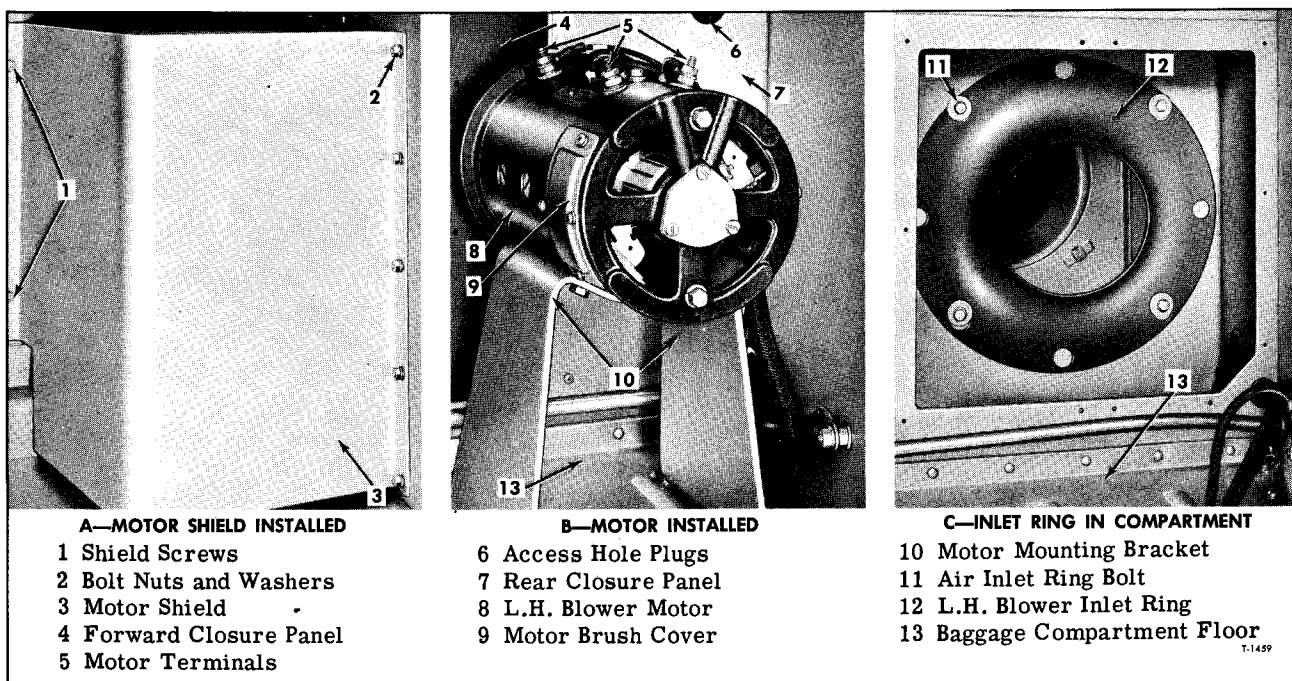

Figure 6—Left Hand Blower Motor Removal Views
2. Referring to figure 6 remove the screws and bolts (1 and 2) which retain motor cover (View A), then remove cover.
4. Remove screws which attach closure panels (View B, fig. 6) and remove front panel.
10. Install blower compartment front closure panel (fig. 6).
At regular intervals remove right-hand motor shield from compartment at right-hand side of coach and remove motor cover from left-hand blower motor (fig. 6). Wipe or brush off accumulated dirt from motors and mounting brackets. Also clean any dirt from adjacent areas.